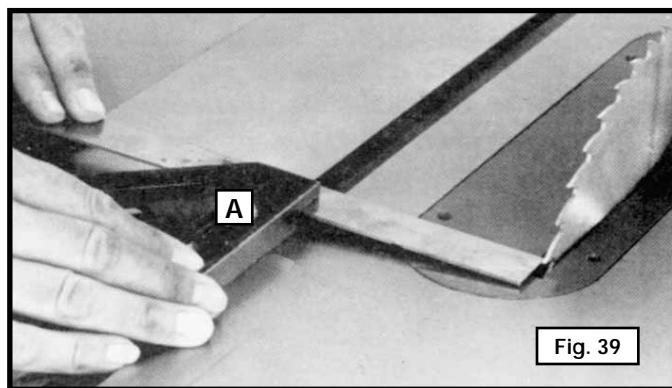

Fig. 39
1. Place a combination square (A) Fig. 39 on the table with one edge of the square in the miter gauge slot. Adjust the square so that the rule touches one of the teeth on the saw blade at the forward position (Fig. 39). Lock the square.